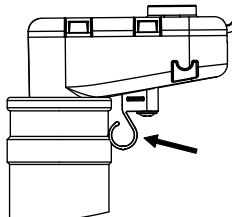
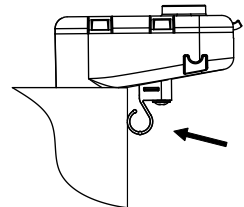

Figure 13a
Figure 13b
- Put the shutoff all the way into the neck of the bowl (e.g. bottle, Fig. 13a), or a vessel wall (e.g. pot, Fig. 13b).